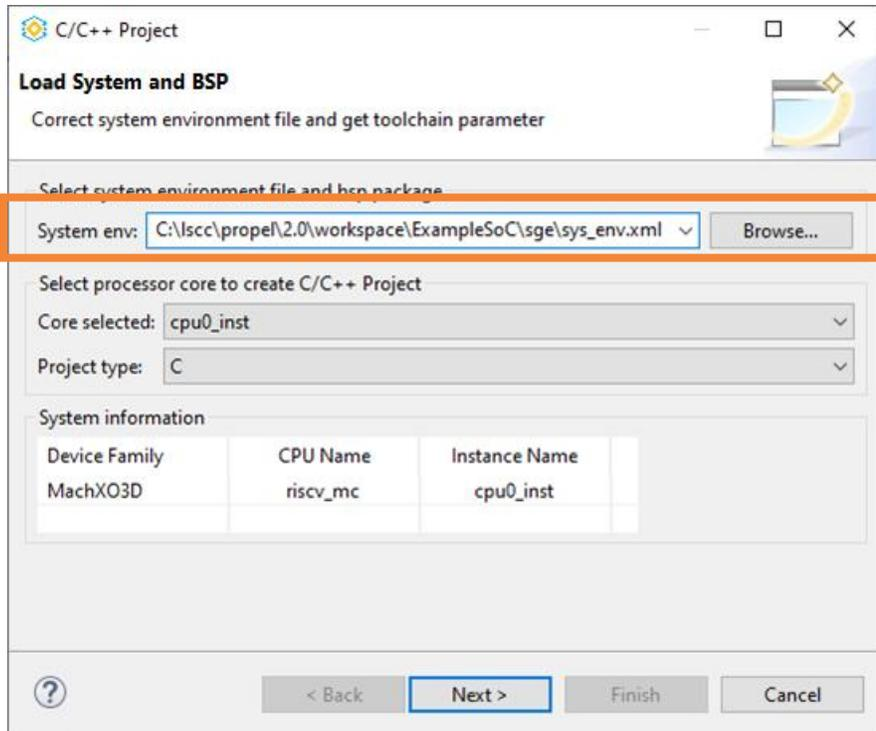

Figure 4.9. Load System and BSP Page
The C/C++ Project wizard opens with **Load System and BSP** page (Figure 4.9).
4. Select the system environment file just generated (Figure 4.9.). Click **Next**.